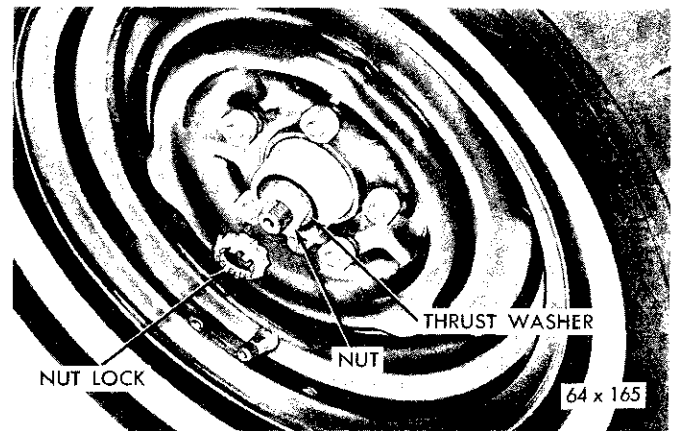

Fig. 19—Front Wheel Bearing Adjustment
- (1) Tighten the wheel bearing adjusting nut (Fig. 19) to 90 inch-pounds while rotating the wheel.
- (2) Position the nut lock on the adjusting nut so one pair of cotter pin slots align with the hole in the spindle (Fig. 19).
- (3) Back off the adjusting nut and nut lock to the next slot and install the cotter pin.
- (4) Install the wheels, tighten the wheel nuts to 65